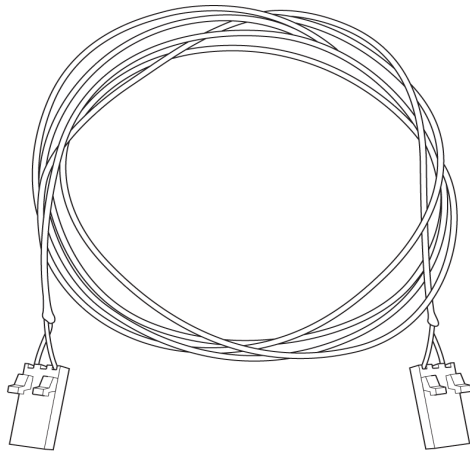

Figure 3.11: Clock Cable
- ❑ **1 Clock Cable** (see Figure 3.11 on page 17).